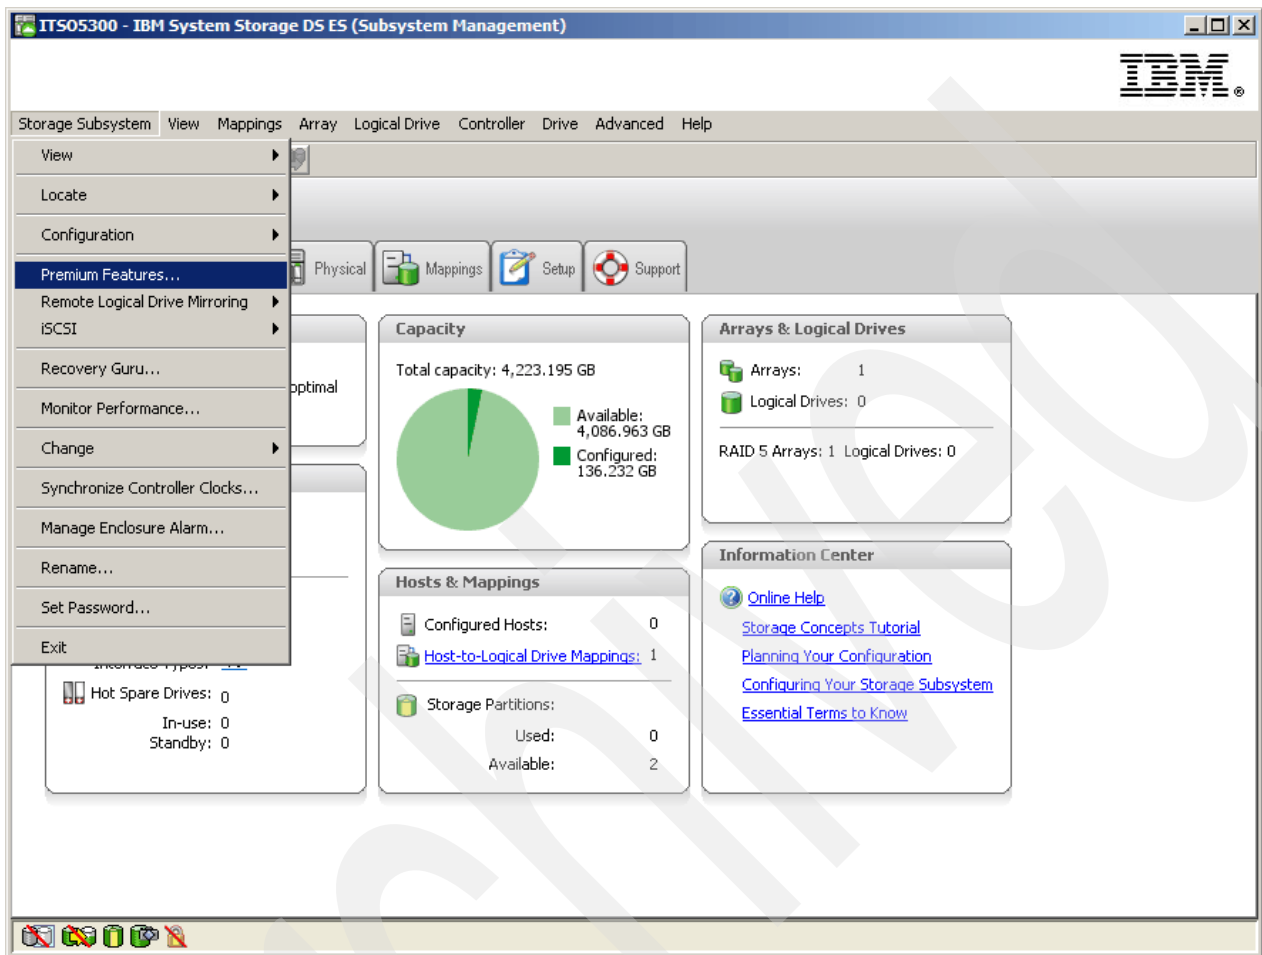

Figure 7-35 Premium Features menu
- Once you have received the key file, go to Storage Manager and select **Storage Subsystem** → **Premium Features** in the Subsystem Management window, as shown in Figure 7-35.